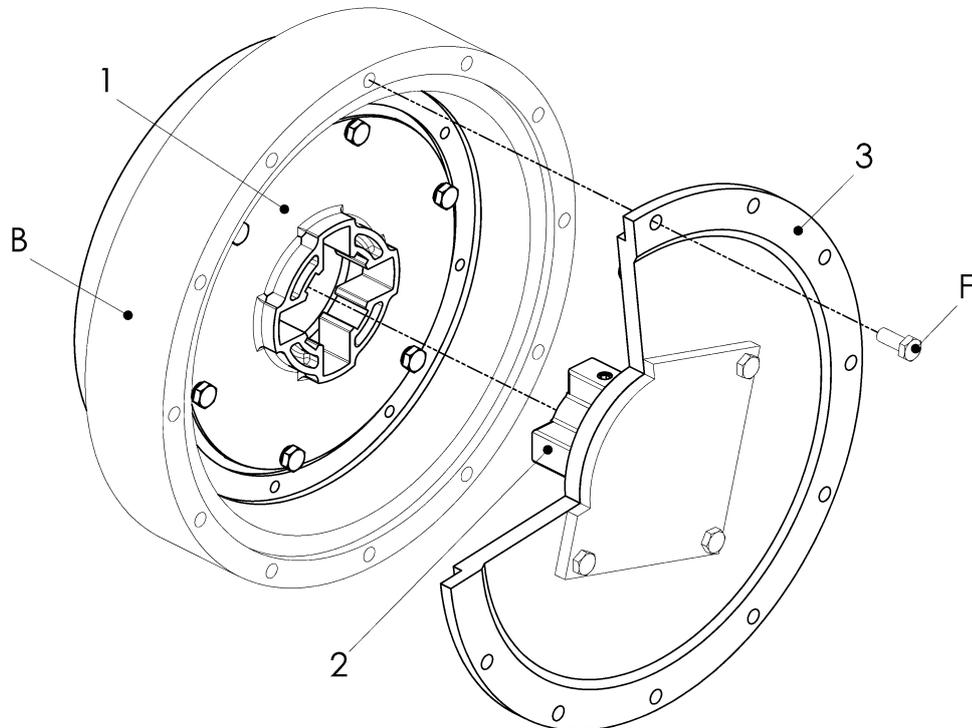

Fig. 5-9 Connecting the driving and the driven unit
8.2 Disconnecting the driving and the driven unit**See Fig. 5-9:**